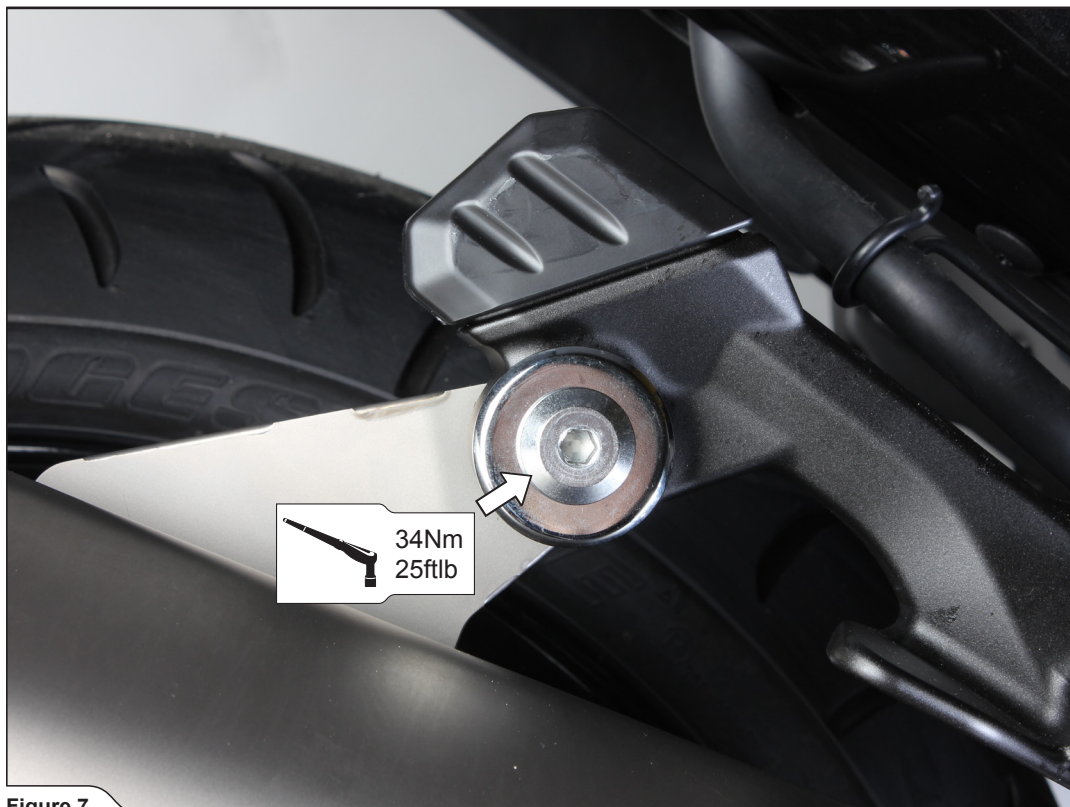

Figure 7
4. Align the muffler in respect to the motorcycle and tighten the muffler's bracket bolt, link pipe's bracket bolt and clamp to the specified torques (**Figure 7, 8**).